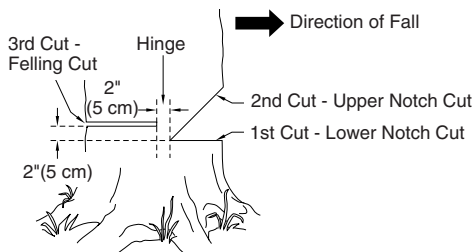

Figure 12 - Felling A Tree
A properly placed felling notch will determine direction tree will fall. Place felling notch on side of tree in direction you want tree to fall (see Figure 12). Follow directions below to create a felling notch.
1. Make lower notch cut as close to ground as possible. Hold saw so guide bar is horizontal. Cut 1/3 the diameter of tree trunk (see Figure 12). *Note:* Always make this horizontal lower notch cut first. If you make this cut second, tree can pinch chain or guide bar.
Example: If lower notch cut is eight inches deep, start upper notch cut eight inches above it. Cut downward at 45° angle. The upper notch cut should meet end of lower notch cut (see Figure 12).
1. Make felling cut two inches higher than lower notch cut and on opposite side of tree (see Figure 12). Keep felling cut parallel to lower notch cut.
⚠ WARNING: Do not cut all the way through tree. Leave about two inches of tree diameter uncut directly behind felling notch (see Figure 12). This uncut portion acts as a hinge. The hinge helps keep tree from twisting and falling in wrong direction.